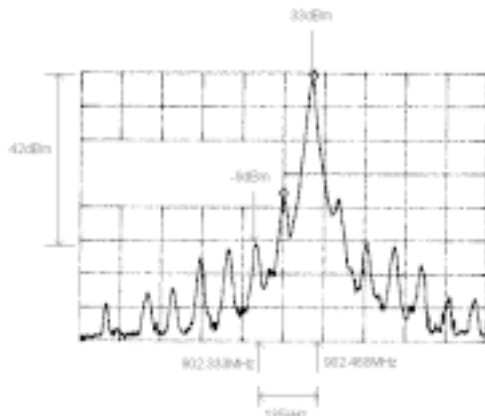

Figure 23: I age leak ratio
2. Figure 23 Using the spectrum analyser measure the i age leak ratio I age leak ratio is the measure ratio of peak power at the power at 135kHz below peak frequency